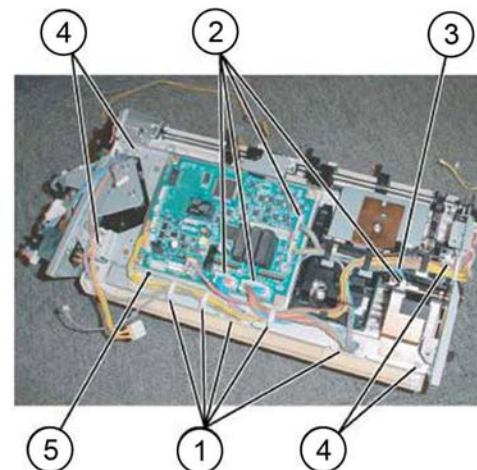

Figure 2 Bottom plate removal
7. Remove the bottom plate, Figure 2:
- a. Release the harness from the 5 clamps (1).
- b. Disconnect eight connectors (2).
- c. Remove the harness from the retainers (3).
- d. Remove four screws (4).